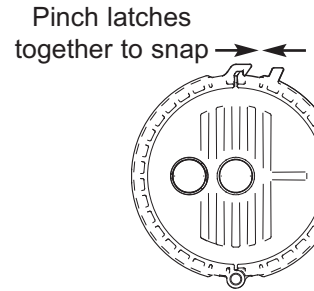

FIG. 15
9. Slide the lid assembly down over the replacement cartridge's ports until it sits flat on top of the sump, then lock the clamp onto the sump by pinching together the latches, as shown in Fig. 15, until they snap. The clamp will not snap unless the cartridge and sump are properly seated and aligned.